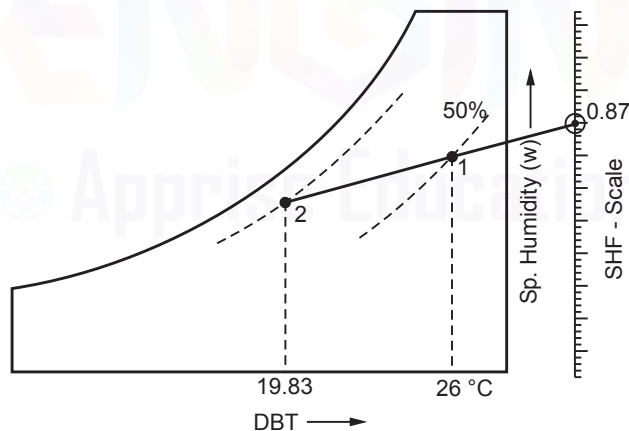

Fig. 5.101
- From point Z draw a line ZZ' which is parallel to guide line (XY).
**Sol. :** Refer Fig. 5.101 (a) on previous page.